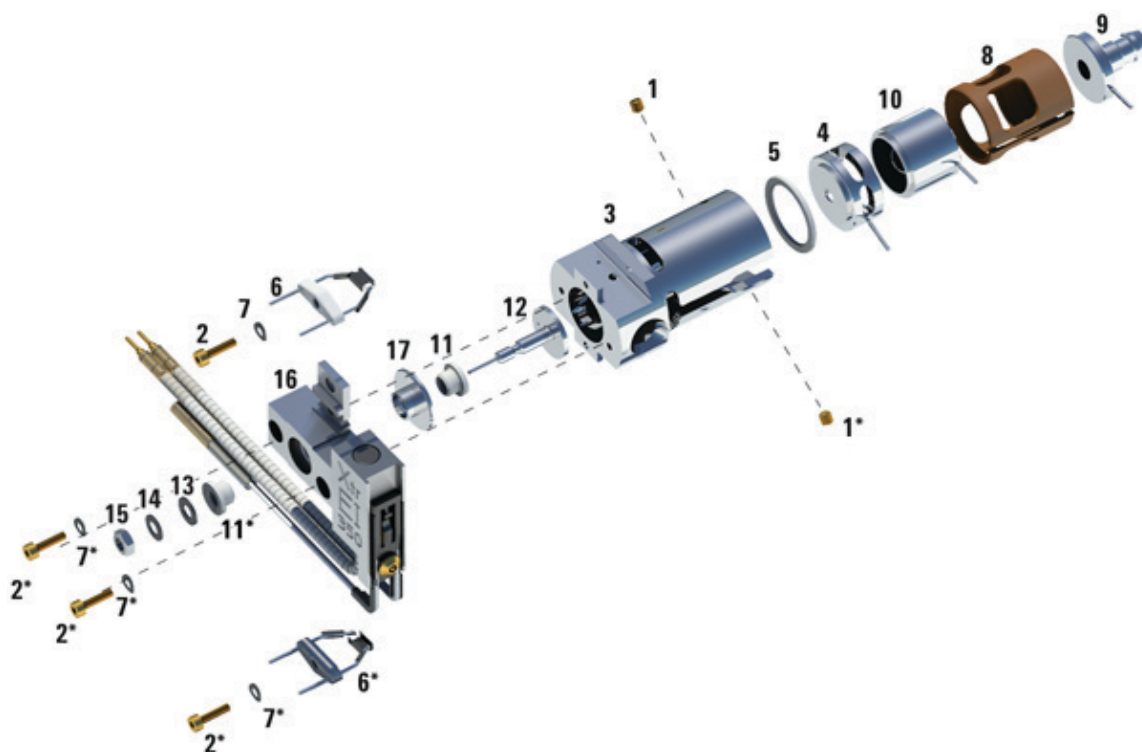

Figure 53. Disassembling the EI XTR source
Refer to the exploded parts view and the EI XTR parts list while using this procedure. (See **Figure 53** and **Table 16** on page 169.)
- 3 Separate the source heater assembly from the source body by removing the two screws. The source heater assembly includes the source heater, repeller, and related parts. (See **Figure 53** and **Table 16** on page 169.)
- 4 Disassemble the repeller assembly by removing the repeller nut, washers, ceramic insulators and repeller. (See **Figure 53** on page 169.)
- 6 Pull the lenses out of the source body and separate the lens insulator, ion focus lens, extractor lens, extractor lens insulator, and extended entrance lens. (See **Figure 53** on page 169.)
Table 16 Parts list for EI XTR source (Figure 53)
Table 16 Parts list for EI XTR source (Figure 53) (continued)